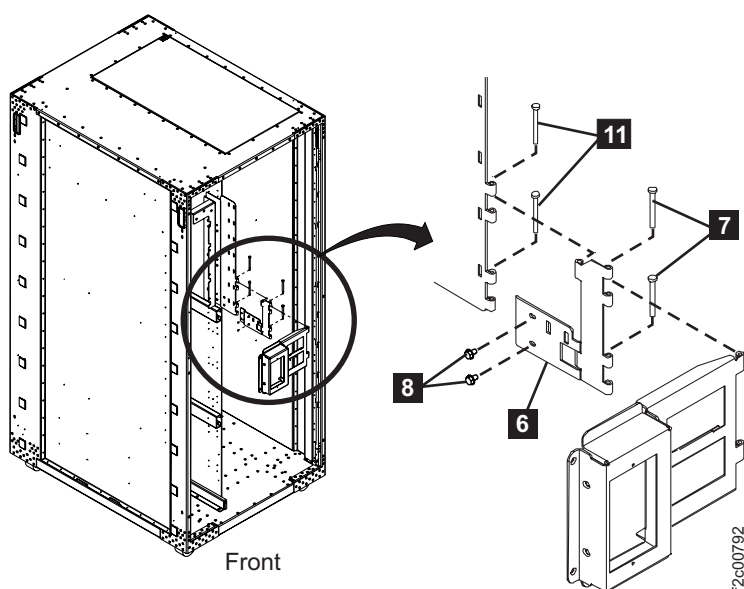

Figure 108. Earthquake resistance kit
7. Remove the operator panel pivot pins **11** from the existing bracket. See Figure 108 on page 128.